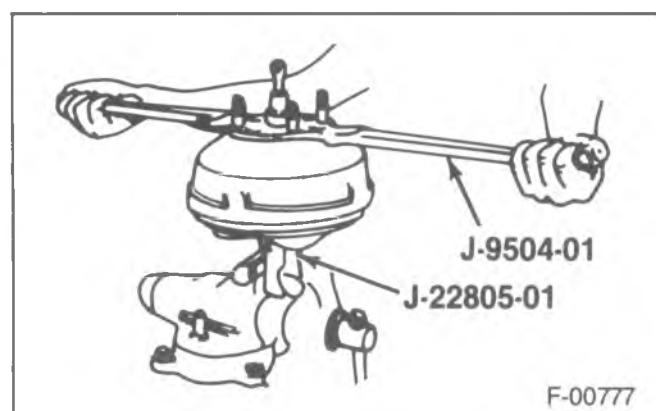
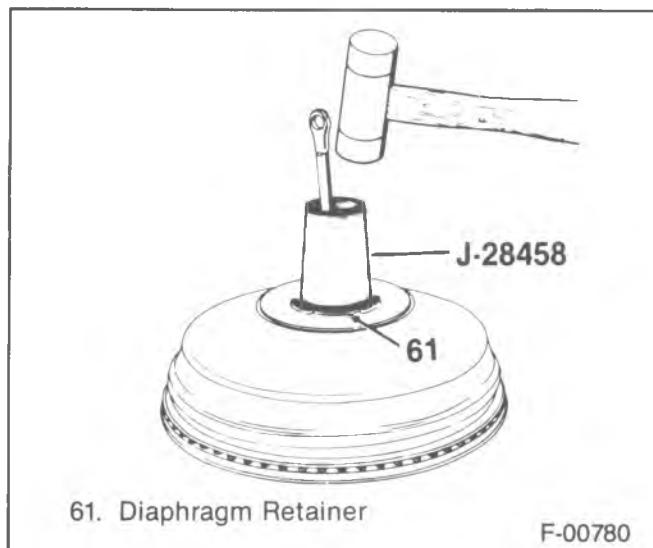

Figure 21—Separating the Housings
Figure 22—Installing the Diaphragm Retainer
1. Retainer (50) and boot (51).
2. Silencer (52).
3. Vacuum check valve (78) and grommet (79).
4. Front housing seal (77).
- Separate housings (54 and 80) by using J-22805-01 and J-9504-01 (figure 21).
5. Primary piston bearing (53).
6. Return spring (81).
7. Piston rod (63) and reaction retainer (64).
8. Power head silencer (62).
9. Diaphragm assembly from the power piston (72).
- Grasp the primary support plate (59) and push down with the air valve pushrod assembly (74) against a hard surface.
10. Diaphragm retainer (61).
11. Primary diaphragm (60) and primary support plate (59).
12. Reaction disc (65) and reaction piston (66).
3. Retainer (75).
4. Filter (76).
5. Retaining ring (71).
6. Reaction bumper (70) and air valve spring (69).
7. Reaction body (68) and reaction body retainer (67).
- 8. Reaction piston (66) and reaction disc (65).
- 9. Primary support plate (59) and primary diaphragm (60).
- 10. Diaphragm retainer (61).
- Use J-28458 to install the retainer (figure 22).
- 11. Power head silencer (62).
- 12. Reaction retainer (64) and piston rod (63).
- 13. Return spring (81).
- The colored coil of the spring must face the front housing (80).
- 14. Primary piston bearing (53) into the rear housing (54).
- 16. Front housing (80).
- Use J-22805-01 and J-9504-B (figure 21).